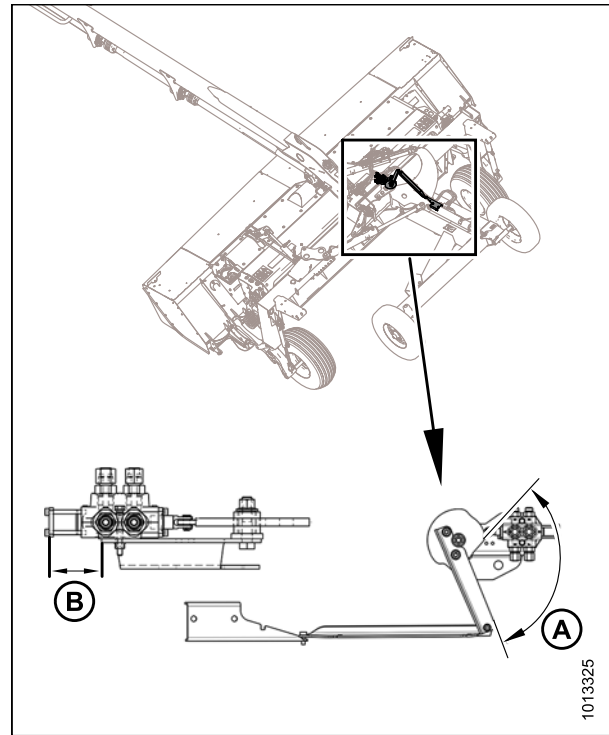

Figure 8.27: Transport Deploy/Swing Mechanism Assembly
3. Adjust the valve position (if necessary) to achieve a clearance of 2-1/2 in. (63 mm) (refer to Figure 8.27: Transport Deploy/Swing Mechanism Assembly, page 116).
4. Loosen two M6 hex head bolts (A), slide valve (B) laterally to achieve proper clearance, and tighten bolts.